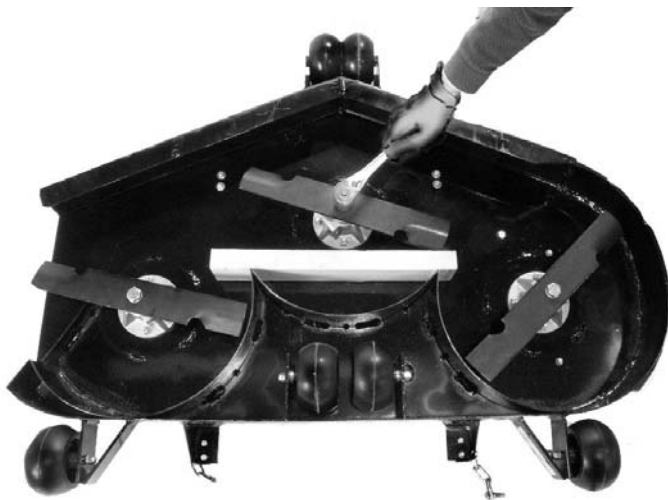

Figure 16
1. Remove the Deck from the chassis following the instructions on page 33. Invert the Deck as shown in **Figure 16**.
2. Place a short piece of 2 x 4 lumber between the side of the Deck and the Blade to "lock" it in position (**Figure 16**). Using a 15/16" Wrench, remove the Blade attaching Bolts and Washers from the Spindle. Remove the Blade and repeat this step for the other two (2) Blades.